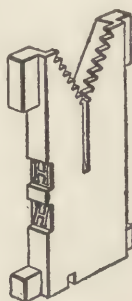

FIG. 32.
"That was caused by the bar pawl (4) being worn. You have noticed, I presume, that all matrices have a groove down the center on the left-hand side (see Fig. 32) deep in the thick matrices, shallow or not at all in thin ones. As a space wide enough for the thickest matrix to be lifted to the distributor bar might permit two thin ones sticking together to be raised at one stroke, all matrices are cut to a uniform thickness at this point, and a pawl (4) which stands in their path above the matrix lift (1) enters this groove and will allow only one to pass at a time. If the point of the pawl wears off or the upper or lower rails in the distributor box wear enough to allow two thin matrices to pass, these parts must be renewed. The point of the lift (1), although case-hardened steel, will also wear, and will then have a wide enough seat to pick up two thin matrices at a time. Of course, a new lift must then be put in."
"Look at the matrix first. You see each matrix bears two characters (Fig. 32), the roman letter in the usual position and the same letter in italic below it. The small-caps. are doubled up with the figures, and the italic figures made to run as side sorts in the pi box. The lever (*D*) in the assembler is attached to a plate (*C*) which works in a slot in the assembler and projects inside the box when the lower end of the lever is drawn forward. This plate then supports the matrices at a higher level than ordinarily so as to bring the italic faces in line with the roman faces of such words as are to be set in roman. The plate is in two sections, the right-hand end being a short piece having a shift-key (*F*) of its own. This is so that after setting the italic or small-cap. word, that portion of the plate can